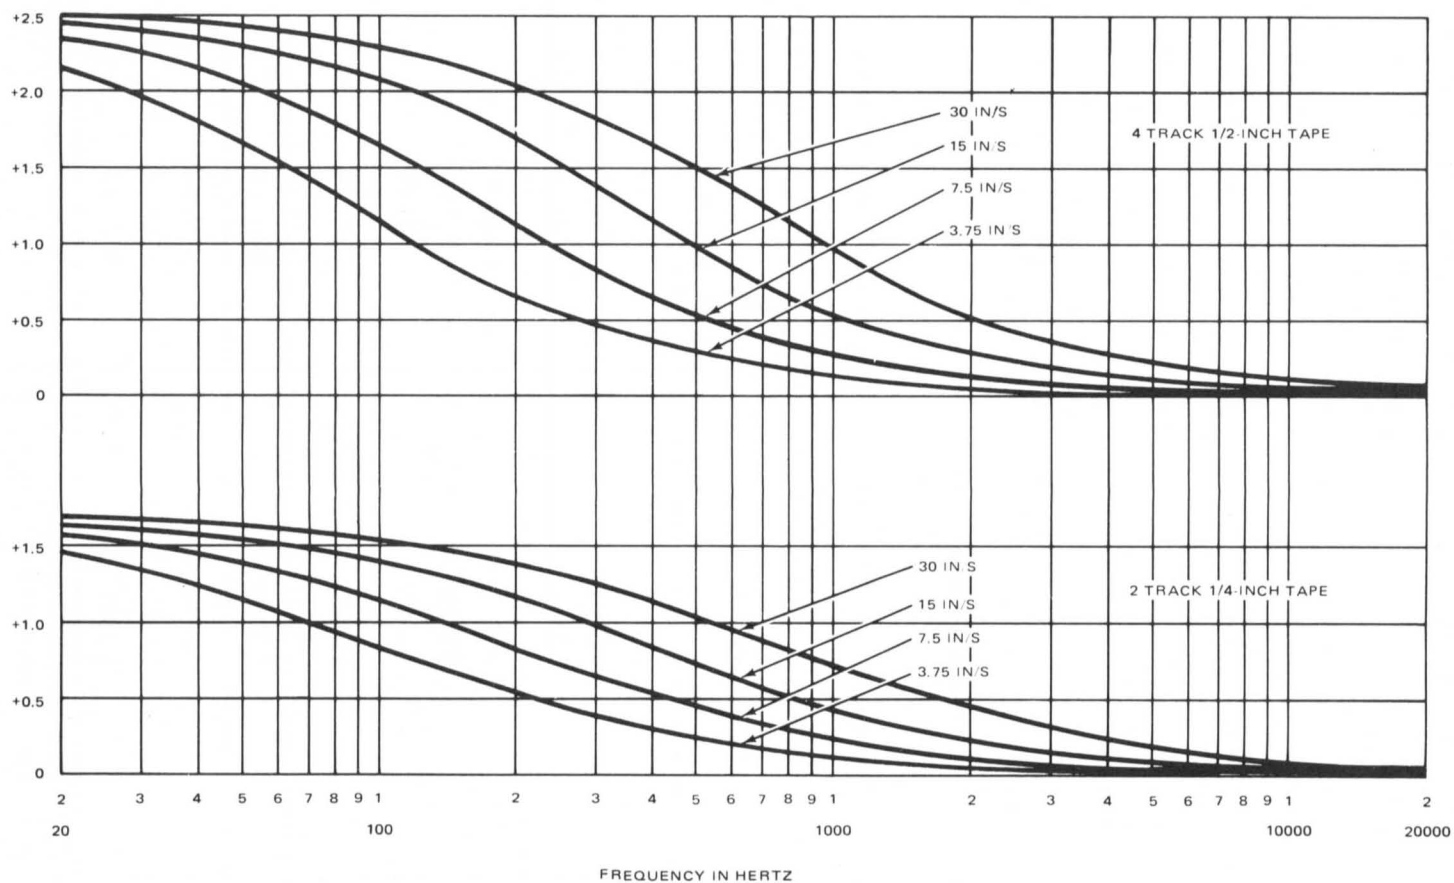

Figure 5-8. Relative Fringing Frequency Response Due to Fringing Effect
Therefore, if the equalization is correctly adjusted, the reproduce response when using a full-track alignment tape on either a 2-track, 1/4-inch tape system or a 4-track, 1/2-inch tape system should conform to the relative curves shown in Figure 5-8 within the tolerances given in Table 5-3. The curves given in Figure 5-8 display the *relative* fringing frequency response and *do not* include the fixed error due to the wider reproduce core width (as compared to the record head width).
NOTE: To the above tolerances, add manufacturing tolerances of the alignment tape and relative fringing frequency response due to fringing effect (Figure 5-8).
<p>*The amplitude correction factors shown in the table are the sum of the values shown in Figure 5-8 for the frequencies shown in the table, and the fixed errors due to wider reproduce core width as follows:</p> <p>2 track — 0.56 dB due to 80-mil reproduce core on 75-mil track</p> <p>4 track — 0.6 dB due to 75-mil reproduce core on 70-mil track</p>
The correction factors in Table 5-4 are the amounts by which the actual measured reproduce output from a full width alignment tape will exceed the reproduce output of the correct track width recorded to the same fluxivity. The table includes the fixed error due to the wider reproduce core width and the relative fringing error (shown in Figure 5-8) for frequencies of 500 Hz, 700 Hz, and 1.0 kHz. For example, when reproducing the 700-Hz, 185-nWb/m tone on an Ampex 15 in/s full-width alignment tape on a 2-track, 1/4-inch tape system, the output (as read on an ac voltmeter) will be +1.14 dB higher (Table 5-4) as compared to reproducing an alignment tape that has the same track format as the recorder/reproducer.
0.58 dB	— relative fringing frequency response due to fringing error effect at 700 Hz and 15 in/s (Figure 5-8).